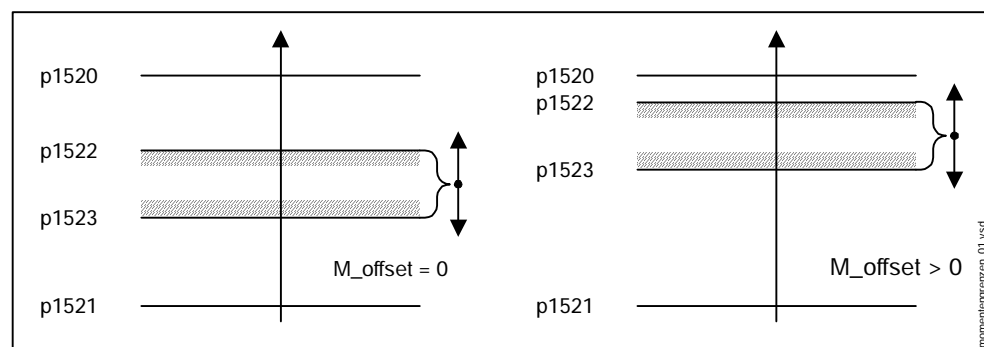

Fig. 5-23 Example: Torque limits with or without offset
- Offset of the setting values also possible (see Fig. 5-23)